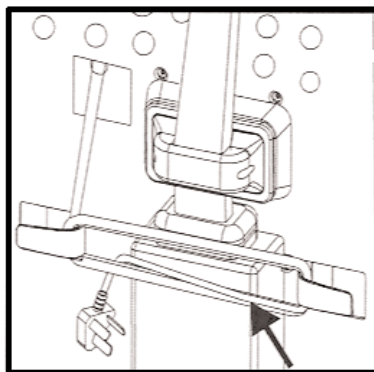

FIG.27
- Order the power cord. FIG. 27